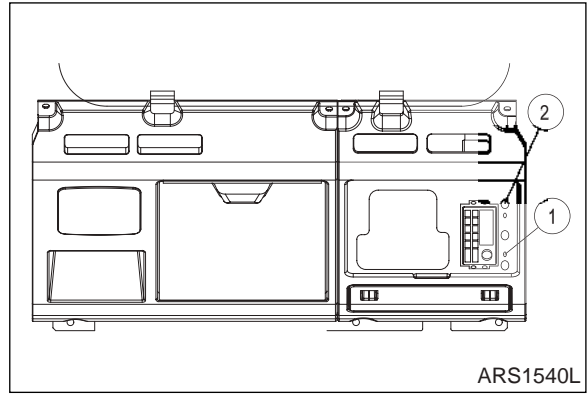

Figure 5
14. Remove cover (5, Figure 4) on left side dash cover (3) and bolts (1, Figure 5).
17. Remove three bolts (2, Figure 5) after disconnect speaker wire and antenna wire. Remove stereo assembly.